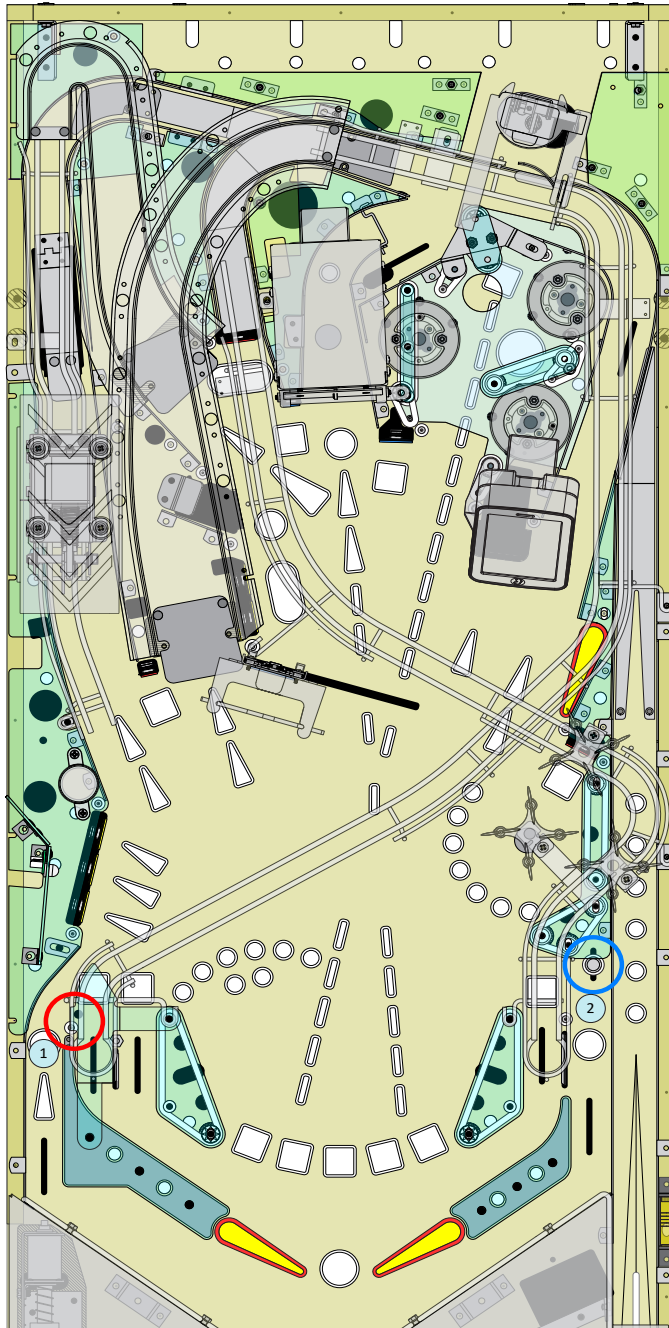

Figure E4. Dialed In playfield adjustable posts.
1) The steel mini post near the left outlane (circled in red in figure E4) can be repositioned (or removed altogether) to make the game play more or less liberally/conservatively. There are two pre-drilled mounting holes in the playfield. The most liberal post position is the highest (furthest from the player) of the two holes (making it more difficult for the ball to get to the left outlane). When the post is moved closer to the inlane/outlane divider, the game will play more conservatively (making it easier for the ball to get to the left outlane). The most conservative adjustment is to remove the post altogether. See the mini post removal or installation instructions below. No plugs are necessary for the unused hole(s) in the playfield.
2) The dual rubber, steel adjusting post near the right outlane (circled in blue in figure E4) can be repositioned (or removed altogether) to make the game play more or less liberally/conservatively. There is a mounting slot routed in the playfield. The most liberal post position is the lowest (closest to the player) in the slot (making it more difficult for the ball to get to the right outlane). As the adjusting post is moved further from the player, the game will play more conservatively (making it easier for the ball to get to the right outlane). The most conservative adjustment is to remove the post altogether. See the adjusting post repositioning/removal or installation instructions below.